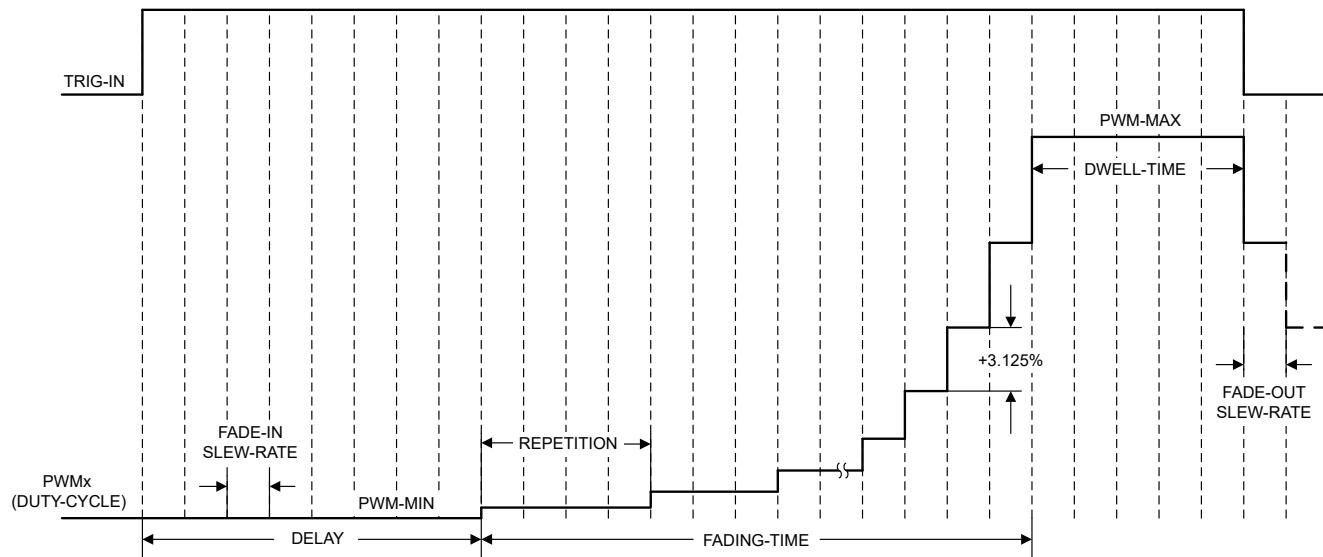

图 7-6. Fade-in Fade-out Detailed Timing Diagram
By default the DAC43901-Q1 is configured in the PWM fade-in fade-out with the default settings as shown in 表 7-4. To change settings in the SRAM, write the SRAM address to the SRAM-ADDR register followed by a write to the SRAM-DATA register with the data. The register locations can be directly written with a single I²C or SPI sequence. In fade-in fade-out mode or animation mode, the basic setting is the fade-in or fade-out SLEW_RATE as depicted in 图 7-6. The SLEW_RATE defines the timing resolution of the application. When the SLEW_RATE is multiplied with the number of steps in the fading, the fading time is obtained. The SLEW_RATE can be calculated using 式 4. In logarithmic fading, the number of steps are nonlinear and also depend on the start and end duty-cycle settings. The total fading time is calculated using 式 5 and 表 7-5. The fade-in can be started after a delay, calculated per 式 7. CH0-DELAY defines the fade-in delay for PWM0, and COM-DELAY defines the fade-in delay for PWM1. The delay applies even when the fade-in is disabled by writing 0 for FADE-IN SLEW_RATE. In this case, a predefined delay setting of 256 is considered. There is no delay for fade-out.
- t_{FADE} is the total fading (fade-in or fade-out) time as depicted in 図 7-6.